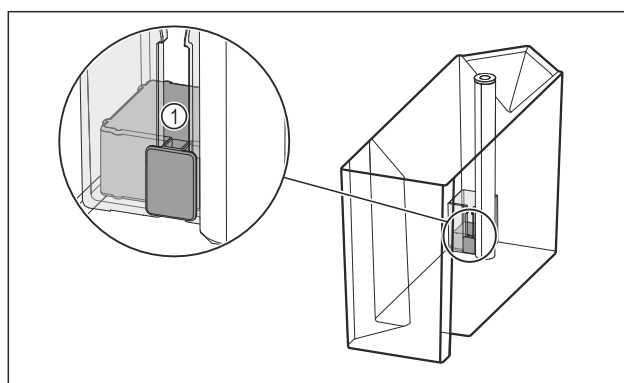

Fig. 98
- ▶ Check whether the float Fig. 98 (1) is jammed.